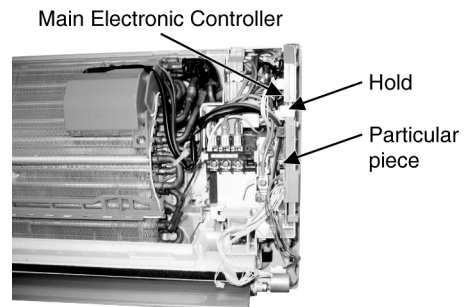

Fig. 4
- Press the Hold to the right side, remove the Particular Piece and slide out the Main Electronic Controller (Fig. 4).